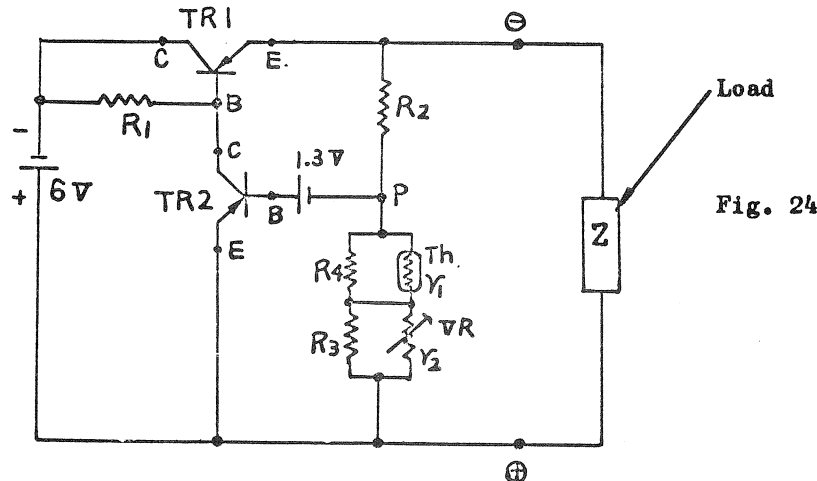

Fig. 24
- c-3-1. In Fig. 24, it is assumed that the specified 3V is added to the load and that a constant current flows. When the output voltage on the load drops, the voltage of point P will also drop.